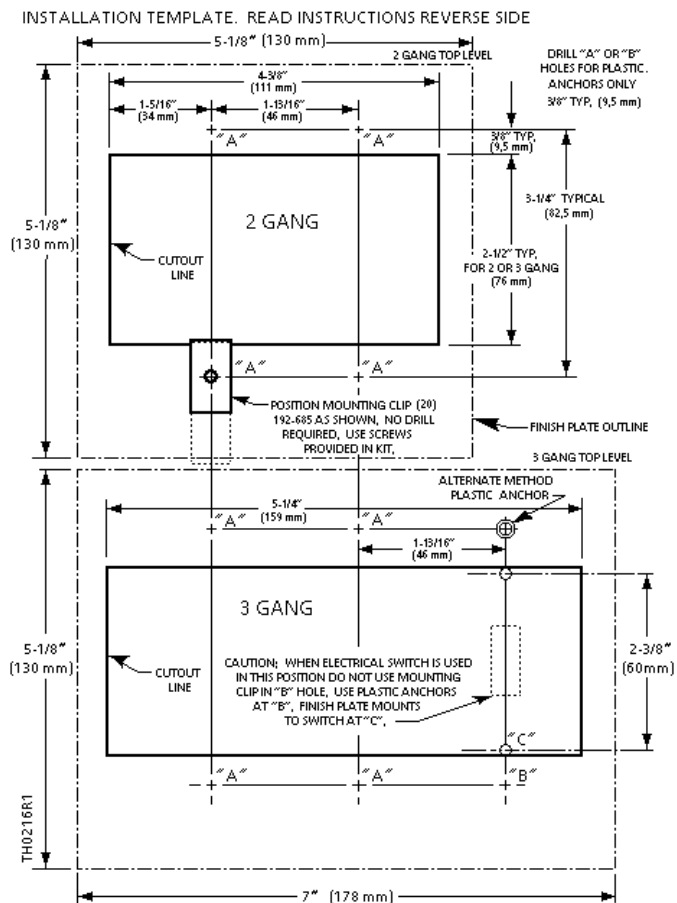
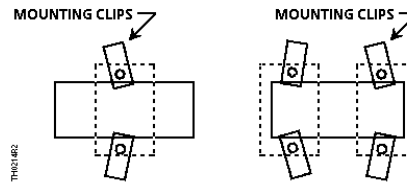

Figure 8. Reduced Size Installation Template without Rough-In Box.
Figure 9. Mounting Clip Position.
1. Select appropriate template, 2 or 3 gang cutout, from back of installation instructions 129-103 provided in finish plate kit. A reduced illustration of side 2 of 129-103 is shown in Figure 8.
4. When installing commercial wall-type light switch to finish plate, drill two (2) additional "C" holes, if necessary, to provide clearance for screws that hold switch to finish plate.
6. If mounting clip kit 182-685 (pkg. of 20) is used, place clips over the drilled "A" or "B" holes. When installing a pneumatic switch, mounting clips must be installed as shown in Figure 9.